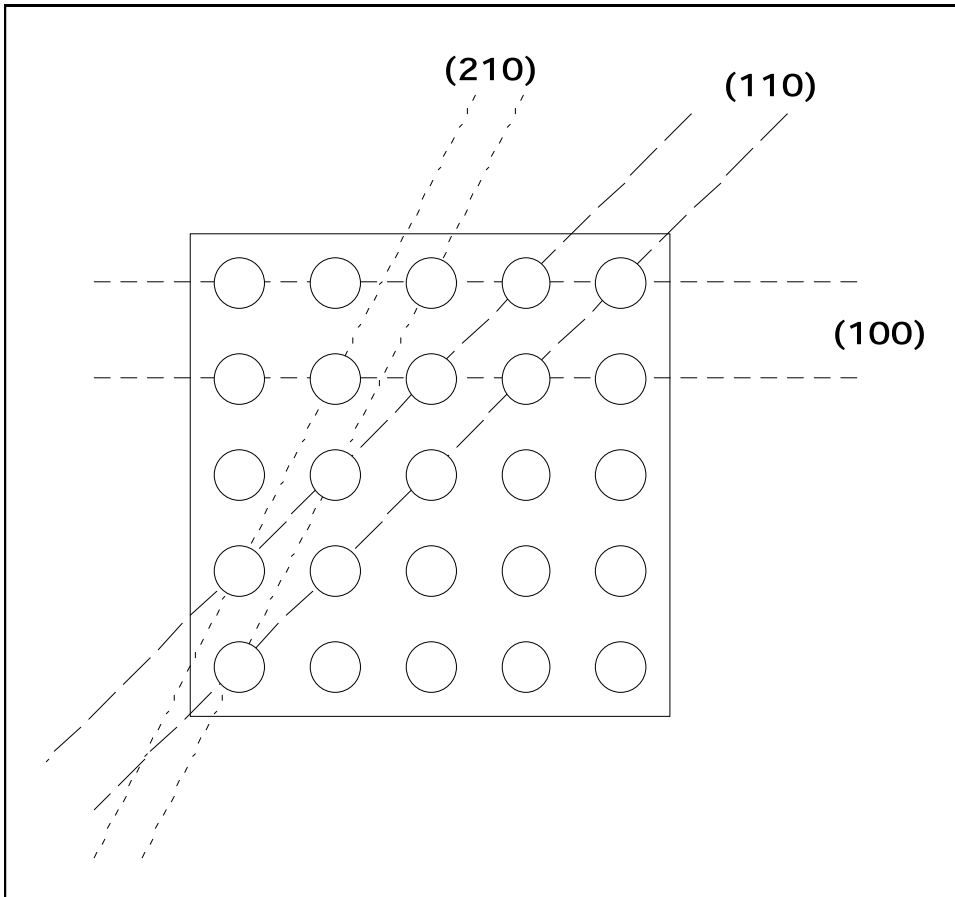

Figure 2: Definition of Families of planes.
2. Notice the three families of planes indicated in Figure 2. (The designations (100), (110), and (210) are the Miller indices for these sets of planes.) Adjust the Transmitter and Receiver so that they directly face each other. Align the crystal so that the (100) planes are parallel to the incident microwave beam. Adjust the Receiver controls to provide a readable signal. Record the meter reading.